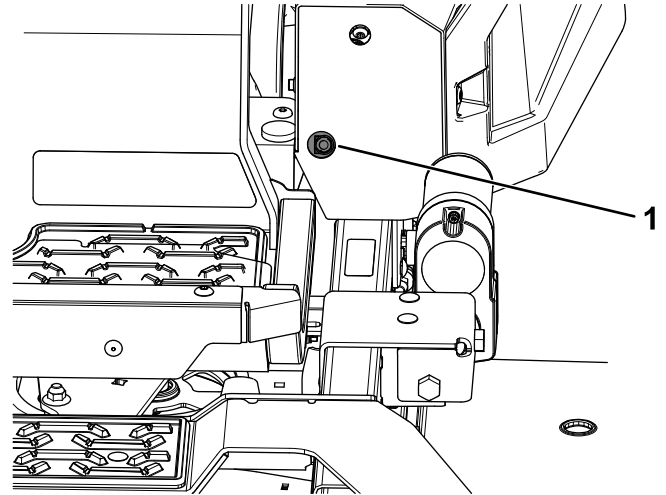
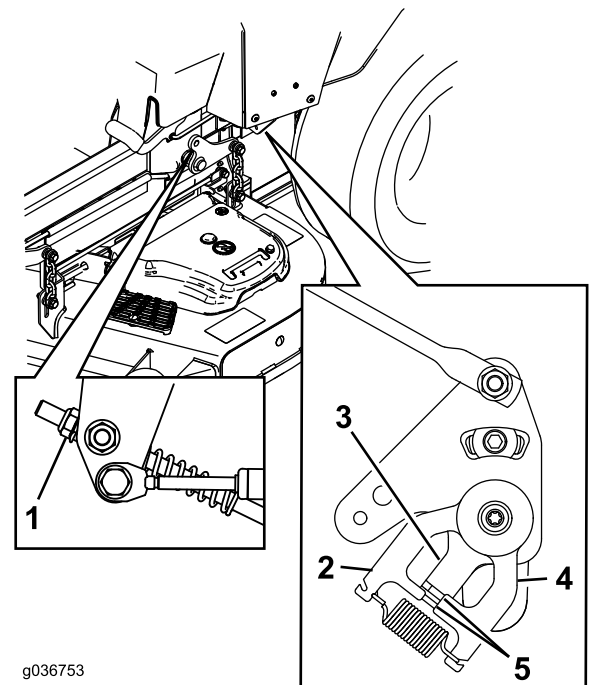

Figure 81
Figure 82
11. Adjust the pump-control-rod lengths by rotating the nut in the appropriate direction until the wheels slightly creep in reverse (Figure 81 and Figure 82).